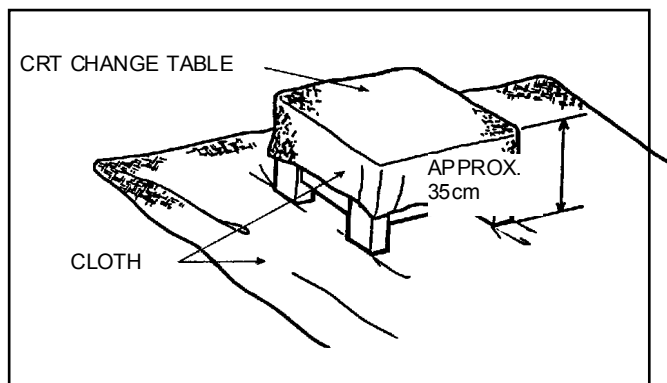

Fig. 3
1. Putting the CRT change table on soft cloth, the CRT change table should also be covered with such soft cloth (shown in Fig.3).